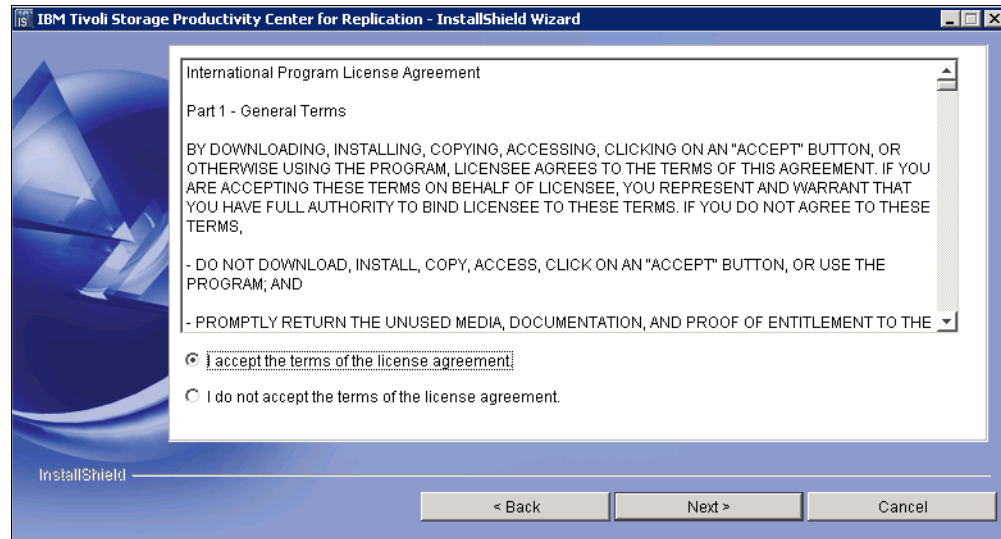

Figure 12-31 Accept the license agreement
11. Select **I accept the terms of the license agreement** and click **Next** (Figure 12-31).